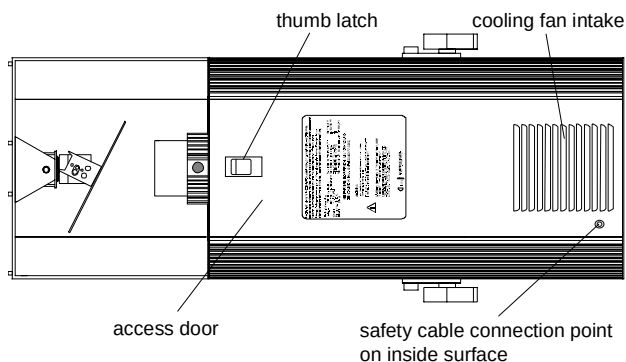

Figure 3-1. Underside of Trackspot
4. Remove the fixture's access door by sliding the thumb latch toward the rear of the fixture and lifting the door off (see Figure 3-1).